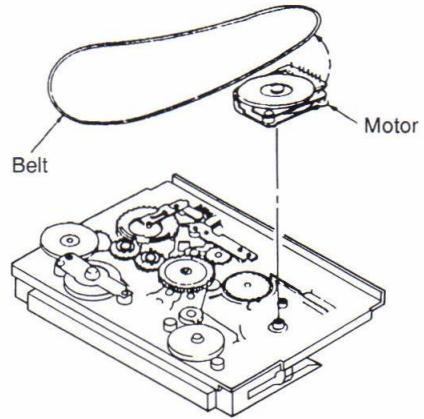

Fig. 3
The head block is supplied as a head block ass'y. (Refer to Fig 3.)
- Remove the belt from the motor. (Refer to Fig. 3.)